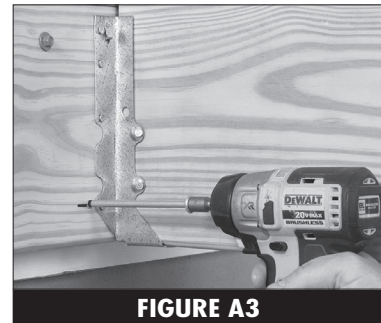

FIGURE A3
4. Install the fastener to the correct depth using the reference line on the screw. (Figure A3)
**Enlargment of FIGURE A3